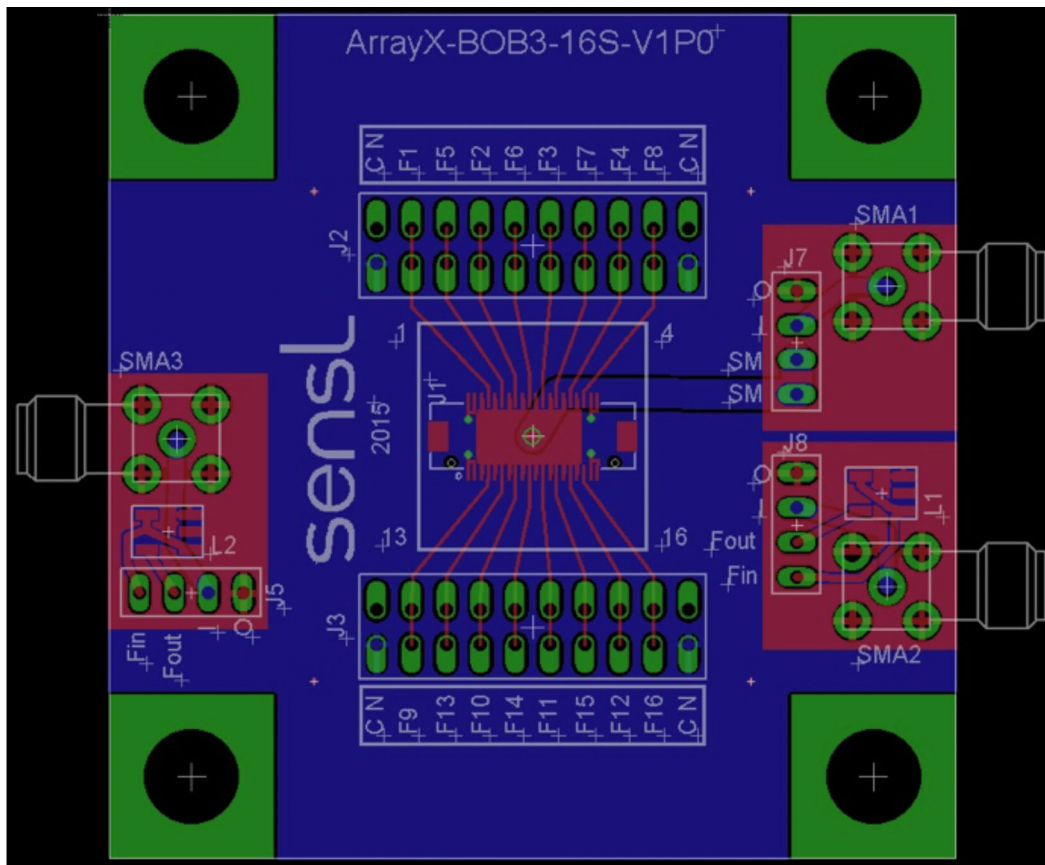

Figure 8. Layout of the ARRAYX-BOB3-16S. The board dimensions are 62 mm x 62 mm
The ARRAYX-BOB3-16S is an evaluation board allowing easy access to the sum of all of standard pixel signals of a **onsemi** ARRAYC-30035-16P, 3 mm 4 x 4 SiPM array, in addition to all of the individual fast output signals. The Summed Breakout Board has a centrally located Hirose 40-way connector DF17(2.0)-40DS-0.5V(57). This connector mates with the Hirose DF17(2.0)-40DP-0.5V(57) board-to-board connector on the ARRAYC-30035-16P. See Figure 7 in the previous section for information on orientating the array on the BOB. A schematic of the board is shown in Figure 8 below.